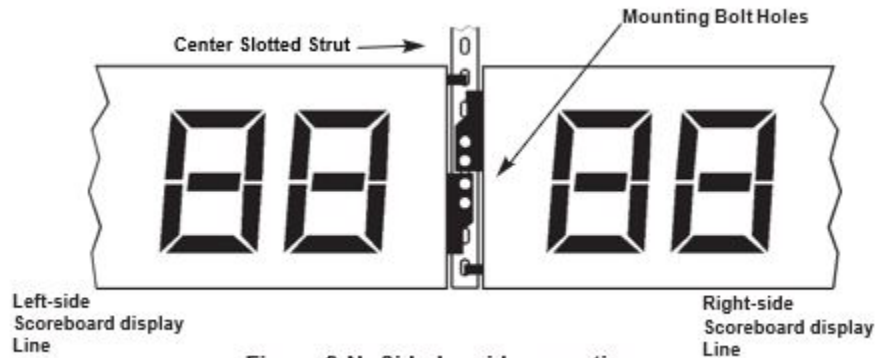

Figure 3-N: Side-by-side mounting
- 5) Follow steps 1-3 for this scoreboard display line, but note how the scoreboard display line's mounting tabs align on the center slotted strut as shown in Figure 3-N.
- 8) Repeat steps 1-7 for all remaining scoreboard display lines. When you are finished with the entire installation, connect columns of scoreboard display lines to each other with data cable(s). All scoreboard display lines should be linked as shown in Figure 3-M.
- 9) When all scoreboard display lines are mounted, secure each display line to the slotted strut using the included 3/8 x 1-inch bolts, washers, and nuts. The bolt hole locations are shown in Figure 3-N.